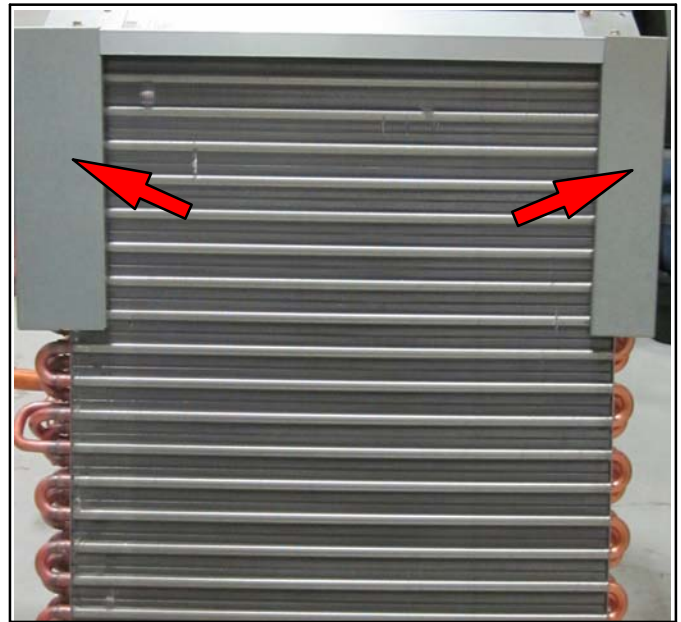

Figure 21. Reinstall the Top Cap. Brackets Must Cover the Hairpins
5. Rotate drip pan 180° and reinstall on coil as shown by the arrow above. Reinstall the top cap. Rotate the blow-off prevention brackets 180° and reinstall using the same screws. Use the correct mounting holes; the brackets must cover the hairpins. See figure 21.